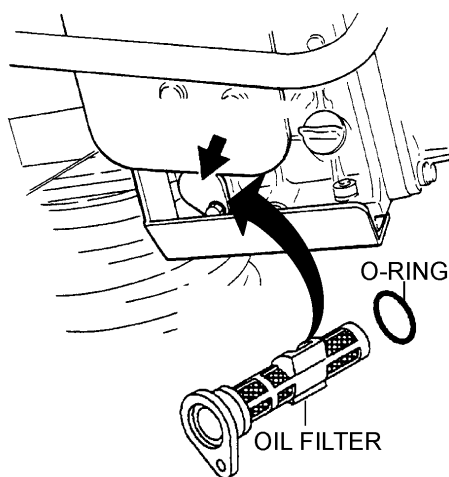

Figure 15. Engine Oil Filter
1. Remove and replace the engine oil filter and o-ring (Figure 15) every 1,000 hours of operation.